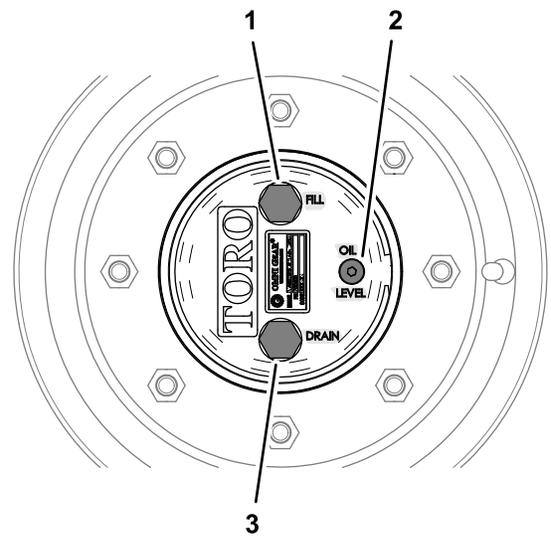

Figure 93
1. With the machine on a level surface, position a wheel so that the fill plug is at the highest (12 o'clock) position and the drain plug is at the lowest (6 o'clock) position (Figure 93).
1. With the machine on a level surface, position a wheel so that the fill plug is at the highest (12 o'clock) position and the drain plug is at the lowest (6 o'clock) position; refer to Figure 93 in Checking the Planetary-Gear-Drive Lubricant \(page 67\).